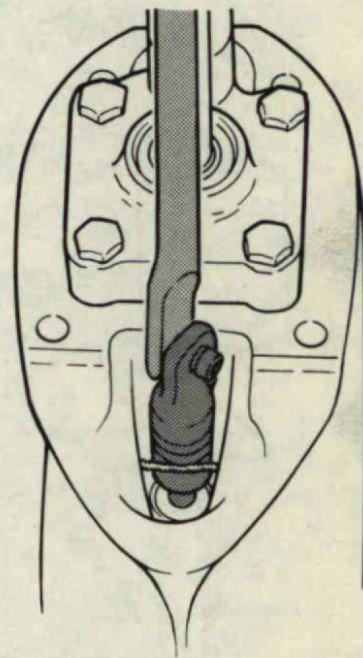

Figure 73. Aligning Gear Shift Rods.
- D. Align gear shift rod lower coupler to shift rod upper as shown in Figure 73. Shift rods must be positioned exactly as shown or engine will not shift properly. Install screw securing lower shift rod to upper shift rod.